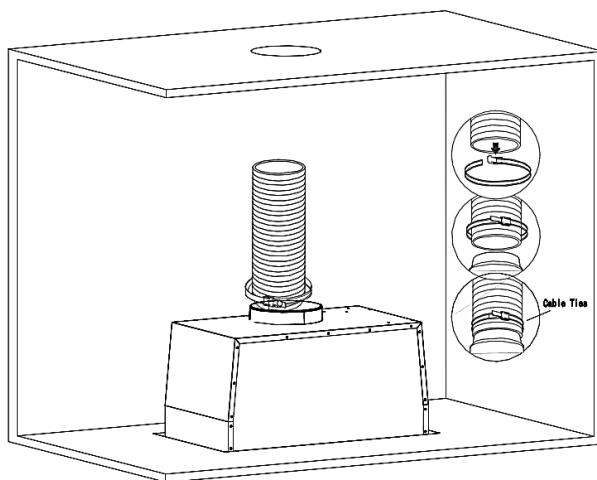

Fig. 8
6. Use the drilling tool to open an air pipe hole and a power cord hole at the top of the cabinet. Install the Exhaust Pipe into the air outlet and lock it with a Cable Tie (not included in the delivery set), the other end of the Exhaust Pipe through the hole on the cabinet will be pulled upward to outdoor. (Note: This step can be ignored if use as recirculation mode with carbon filter). (see Fig. 8)